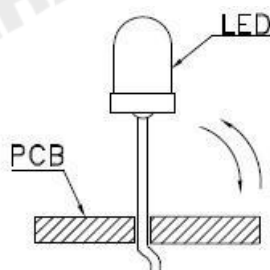

Fig. 8
5. Do not bend the leads more than twice (Fig. 8).